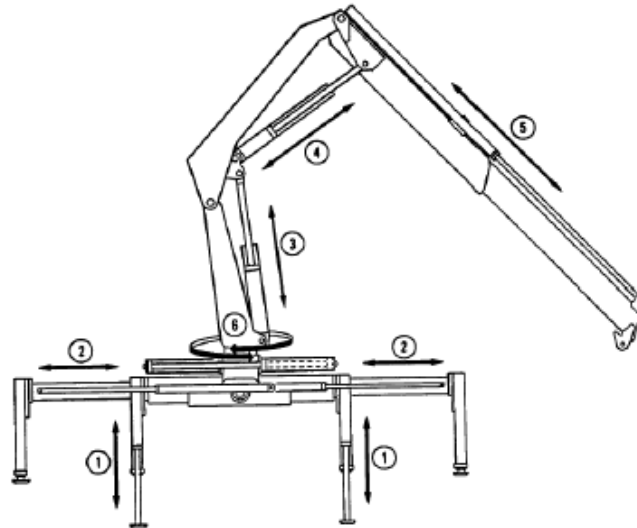

Figure 7 Bleeding Sequence
- Operate the crane and run each hydraulic cylinder out to its end position at least twice. Refer to Fig 7 for the recommended sequence.